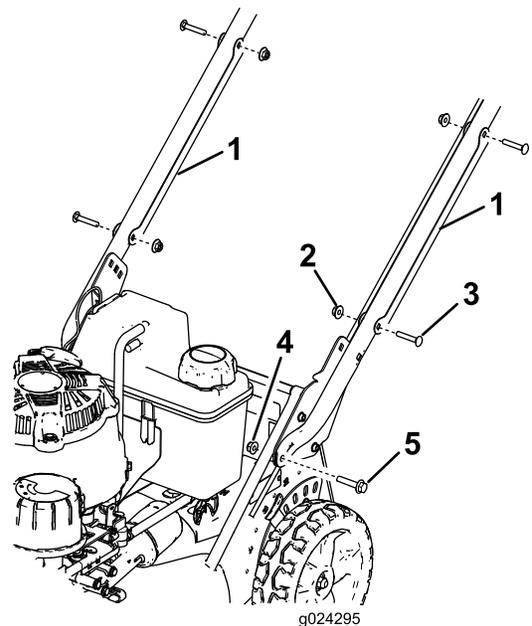

Figure 3
1. Remove the 2 cable guards from the handle (Figure 3) by removing the 2 carriage bolts and 2 locknuts that hold each cable guard to the handle.
2. Install the handle ends onto the mower housing with 2 hex-head-flange bolts (5/16 x 1-1/2 inches) and 2 flange nuts (5/16 inch) as shown in Figure 3.
- Position each cable guard onto the handle with the cable(s) inside the guard, and secure each to the handle with the 2 carriage bolts and the 2 locknuts that you previously removed (Figure 3).